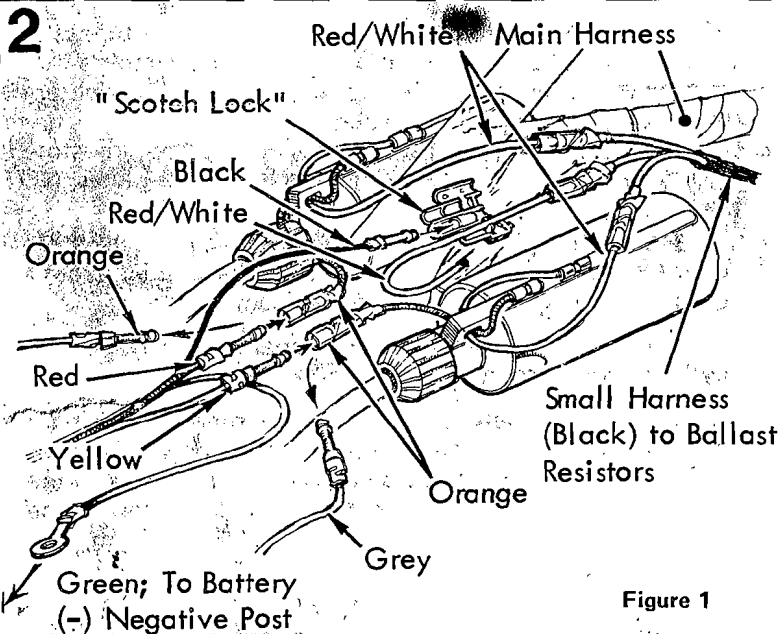

Figure 1
**NOTE:** On the RD 400 both coils have short orange leads, the orange and gray wires are plugged into these. (See Figure 1.)